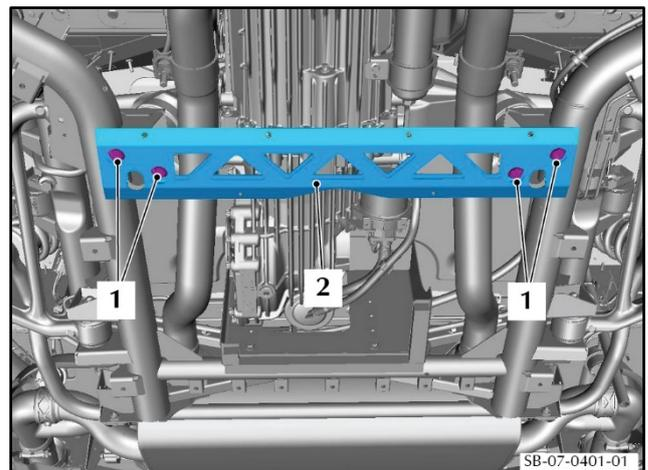

Figure 4
- Hold the cross brace (2). Remove the four screws (1) that attach the cross brace (2) and remove the cross brace (2) (refer to Figure 4).